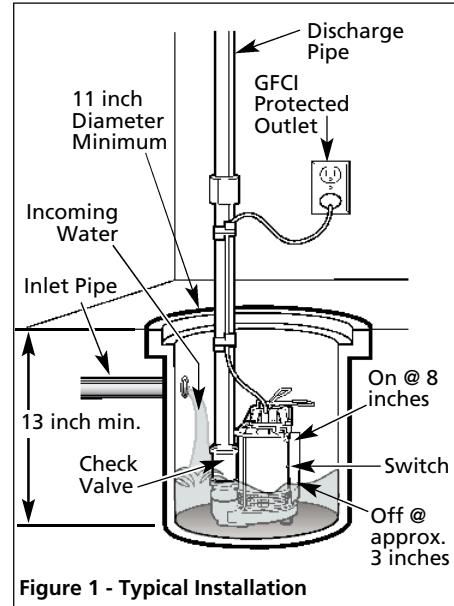

Figure 1 - Typical Installation
1. Install pump in a sump pit with minimum size as shown in Figure 1. Construct sump pit of tile, concrete, steel or plastic.